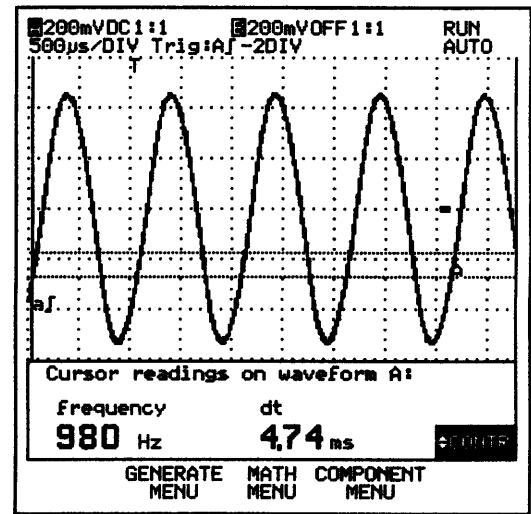

Figure 4.17 Generator sine wave signal.
- K The display will look like Figure 4.17. The generator must produce a sine wave signal with an amplitude of 1V and a frequency of 976 Hz (typical values).